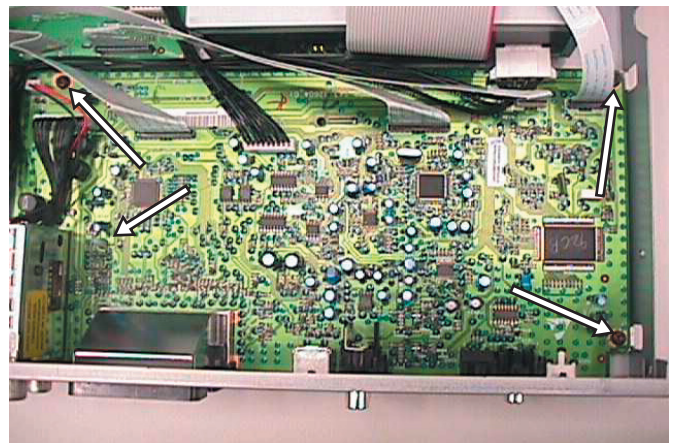

Figure 4-13
- 3) Remove 3 screws and 1 catch mounting the Analog Board to the Frame assembly 920 as given in Figure 4-13